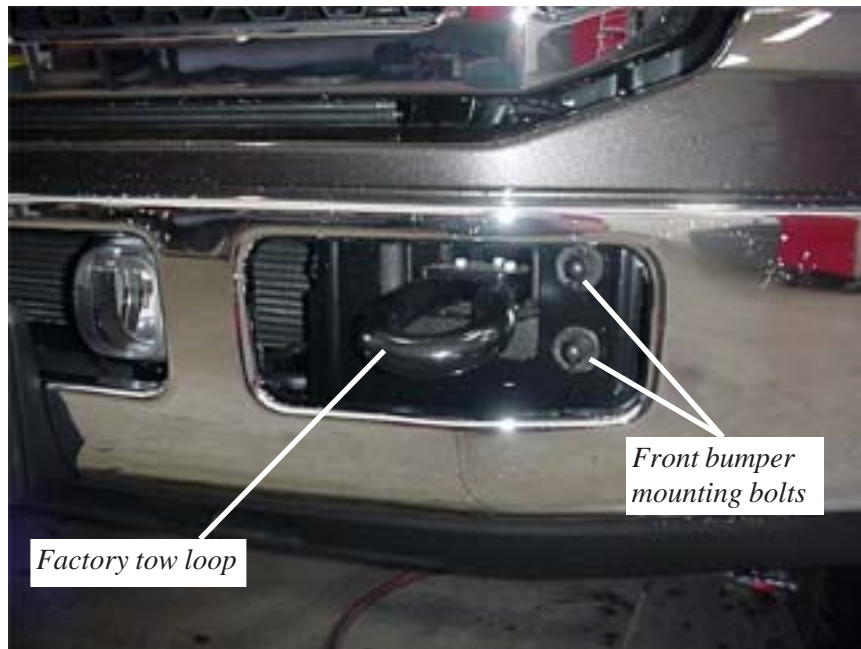

Figure 3 - Left bumper detail
3. Remove the front bumper mounting bolts (2 per side) and remove the bumper. **Figure 3.**